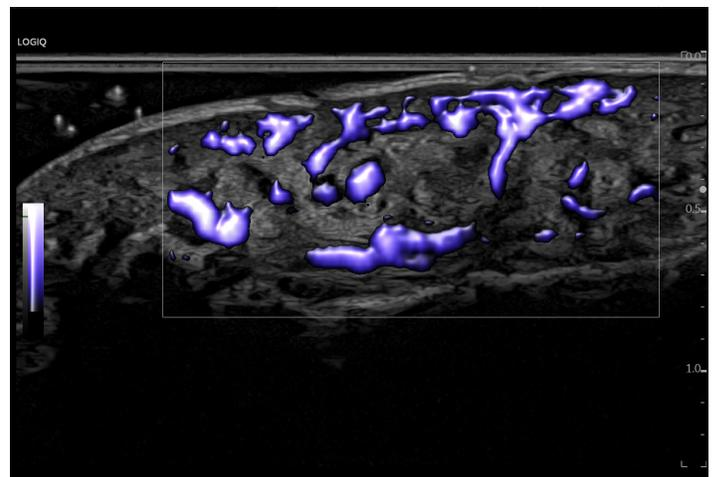

Figure 14. Perfusion through finger with MVI.
- Assessing inflammation in wrist and finger (Figure 14)